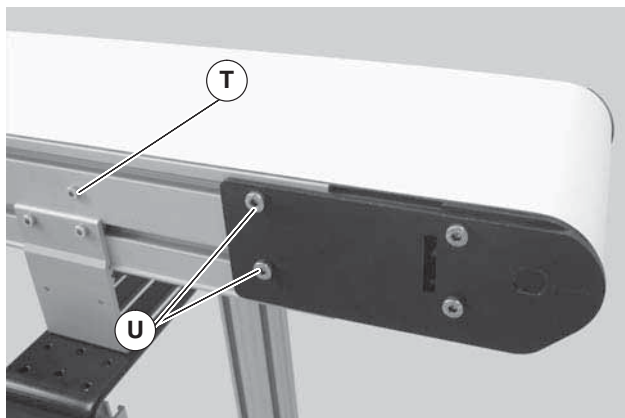

Figure 36
2. On the side of conveyor to be adjusted, loosen two (2) tail clamp screws (Figure 36, item U).